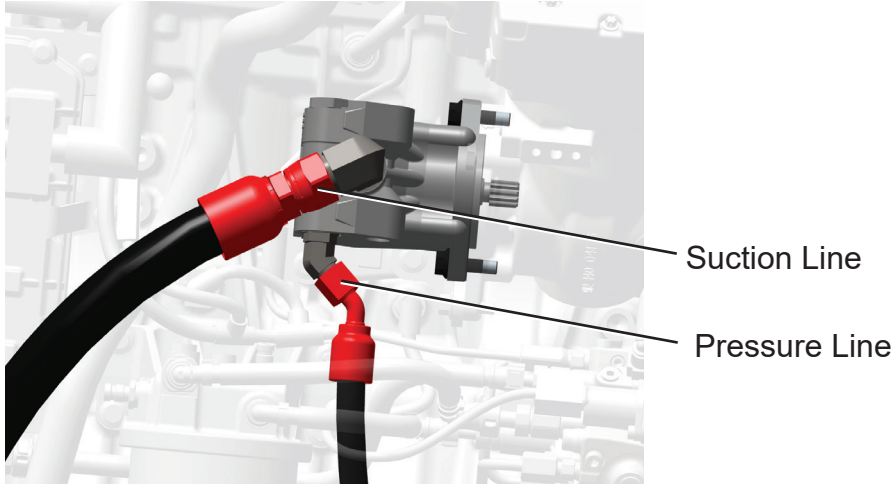

Figure 2
4. Loosen and remove power steering pump suction line from power steering pump, see Figure 2. Cap line and temporarily secure to side of engine near pump.
5. Loosen and remove power steering pump pressure line from power steering pump, see Figure 2. Cap line and temporarily secure to side of engine near pump.